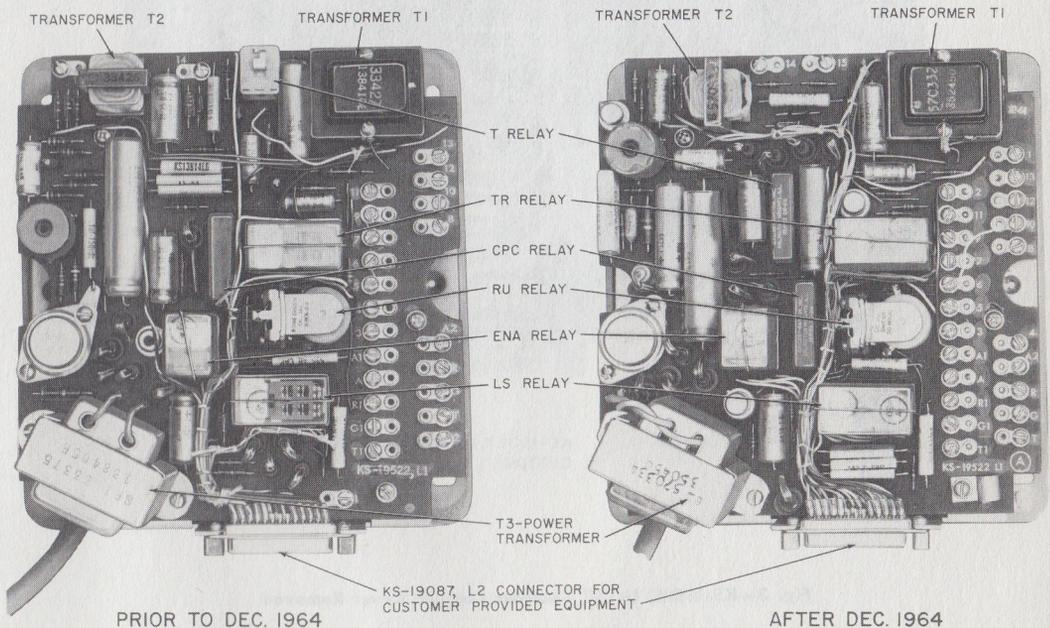
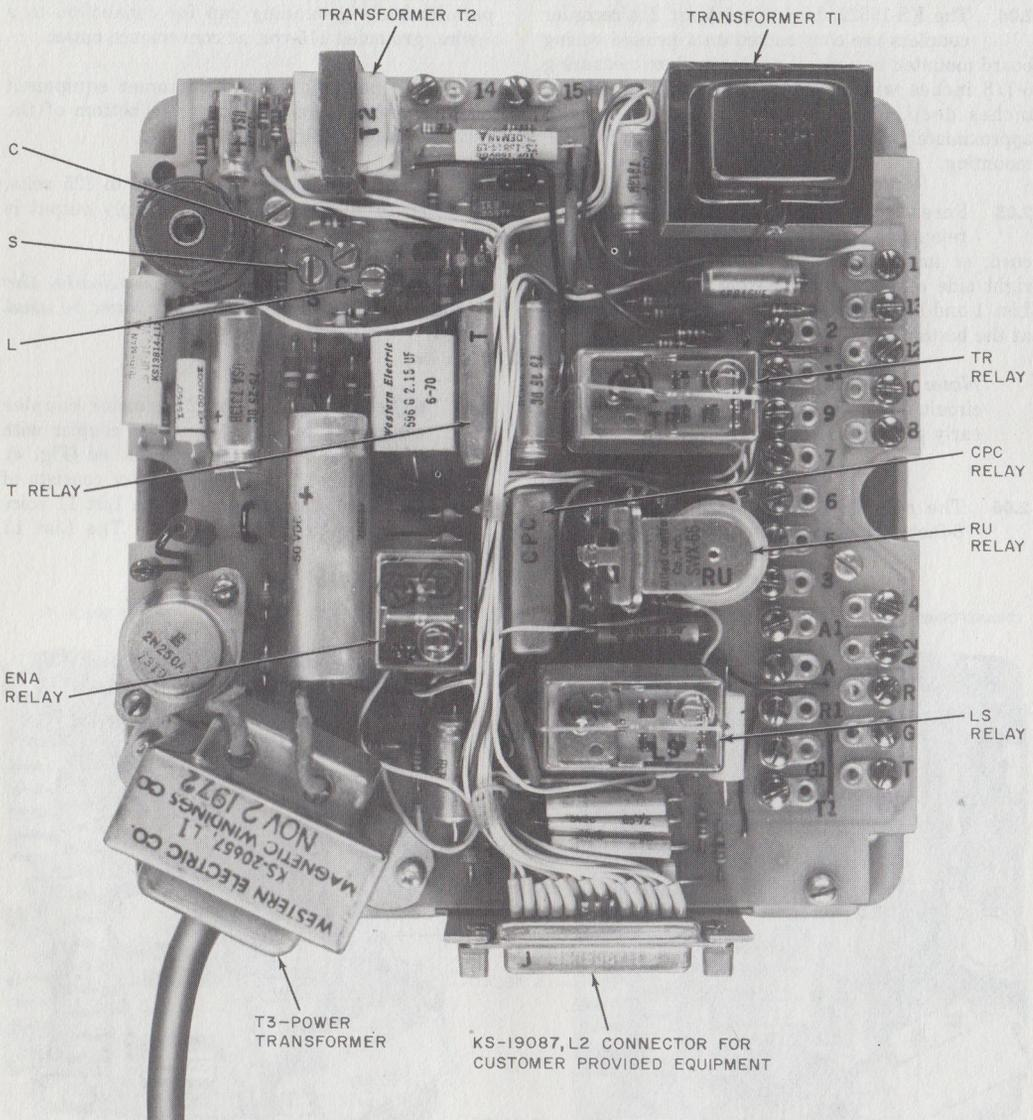

Fig. 2—KS-19522, List 1 (MD) Recorder Coupler, Cover Removed
Fig. 3—KS-19522, List 21 Recorder Coupler, Cover Removed
**2.05** Screw terminals for termination of the telephone line and telephone set mounting cord, or inside wiring cable, are located on the right side of the printed wiring board (Fig. 2 for List 1 and Fig. 3 for List 21). Entrance is provided at the bottom of the recorder coupler.
**2.07** The power cord and customer equipment connector are located at the bottom of the recorder coupler (Fig. 2 and 3).
**3.08** The installation of the KS-19522, List 21 and List 22 is identical to that of List 1 and List 2 except that List 21 and List 22 are provided with three extra screw terminals designated S, C, and L located on the upper left quadrant of the recorder coupler circuit board (Fig. 3).